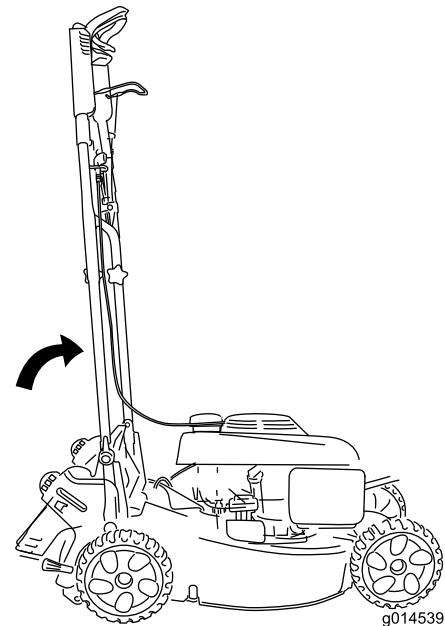

Figure 29
- To store your mower in the smallest amount floor space, stop the handle in the vertical position (shown in Figure 29) and secure the handle locks.